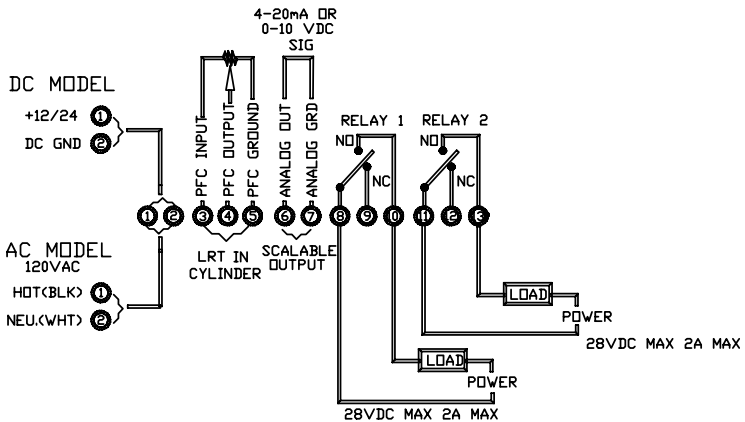
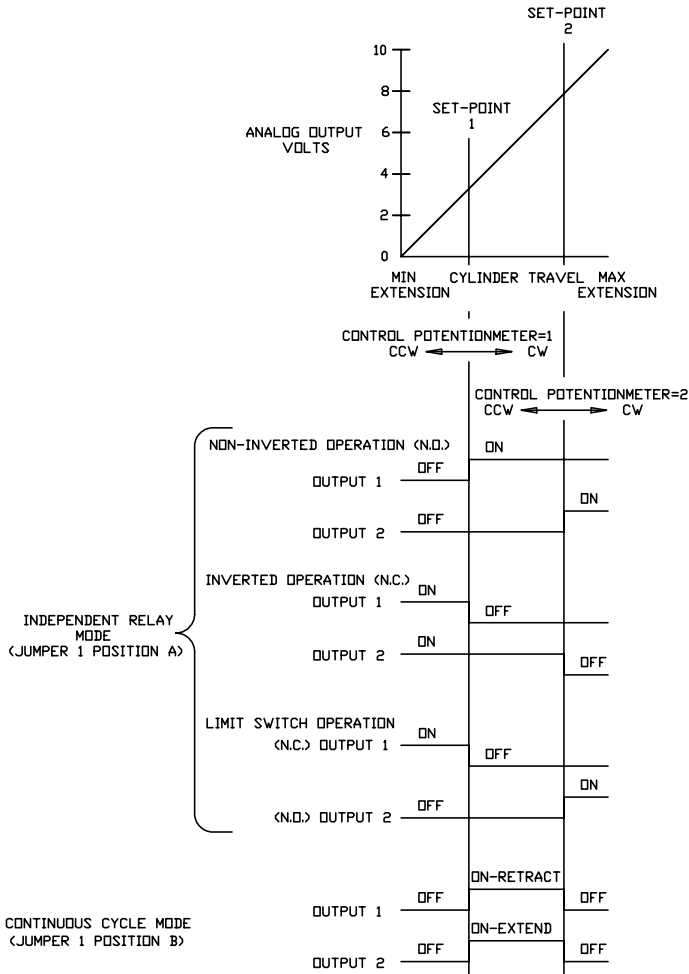

FIGURE 2
FIGURE 3
Standard electrical hookup for each dual output unit is illustrated in FIGURE 2.
Standard electrical hookup produces standard output operation. FIGURE 3 illustrates ideal voltage output versus cylinder travel and the corresponding output actions. Notice that the analog output is minimum when the cylinder is fully retracted and increases as the cylinder is extended. This is standard output action. For an in-depth discussion of the effects that Jumper J1 (Latching Jumper) has on the output operation, refer to Section II B of this manual.
NOTE: Outputs 1 and 2 are adjustable along the full range of cylinder movement and Set Point 1 can be adjusted beyond Set Point 2. If the Continuous Cycle Mode is used, Set Point 2 must be adjusted beyond Set Point 1 as in FIGURE 3.
To implement—install load to Normally Open (NO) side of the relays. Terminal 10 for Relay 1 and Terminal 13 for Relay 2. Terminal configuration is shown in FIGURE 2. When the load is connected to the (NO) sides of the relays, the output will turn on when the analog output is greater than its set point and turn off as the analog output drops below the set point (see FIGURE 3).
When the load is connected to the NC sides of the relays, the output will turn off when the analog output is greater than its set point and turn on as the analog output drops below the set point. (See FIGURE 3)
To implement—load must be installed to one Normally Closed (NC) Relay lead and one Normally Open (NO) Relay lead. Use Terminal 9 for Relay 1; Set Point 1 and Terminal 13 for Relay 2; Set Point 2. (Terminal configuration is shown in FIGURE 2). This arrangement turns on Relay 1 when the analog output is less than Set Point 1 and turns on Relay 2 when the Analog Output is greater than Set Point 2. This is traditionally the information provided by a set of limit switches.
As one output turns on, the other turns off and vice-versa. (See FIGURE 3) This mode of operation allows for continuous cycling of a cylinder between two adjustable limits. Set Point 1 control potentiometer is used to set the inner limit and Set Point 2 control potentiometer is used to set the outer limit. Set Point 1 must be less than Set Point 2.
In this mode of operation, the load is connected to the Normally Open (NO) side of the relays; pins 10 and 13 in FIGURE 2. This means an output is turned on as the analog output is greater than its set point and turned off as the analog output drops below its set point.
For some applications it may be desirable to reverse this operation and have maximum analog output at minimum extension and minimum output at maximum extension. This can be achieved by switching the wires at Terminals 3 and 5 of the control unit as shown before in FIGURE 2.
The setting of output boundaries is accomplished by adjusting the potentiometers offset and gain (refer to FIGURE 2).